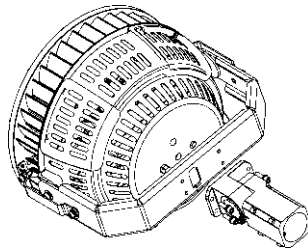

Figure 5
Step 3: Fix the assembled AM bracket to the mounting adaptor with screws.crews after adjusting to the required the angle (Figure 5).